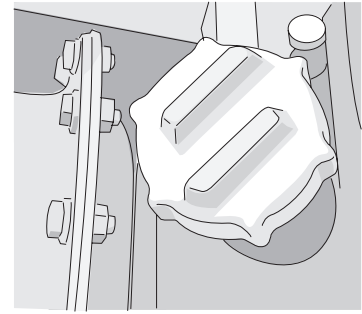

Figure 4-28
- After replacing the gearshift and steering oil filter's element (See "EVERY 250 HOURS SERVICE"), add the required amount of engine oil through the oil injection port. Amount of oil added: 90L (Figure 4-28). The lubricant used depends on the ambient temperature. See the "USE OF FUEL, COOLANT AND LUBRICANTS ACCORDING TO AMBIENT TEMPERATURE" for reference.